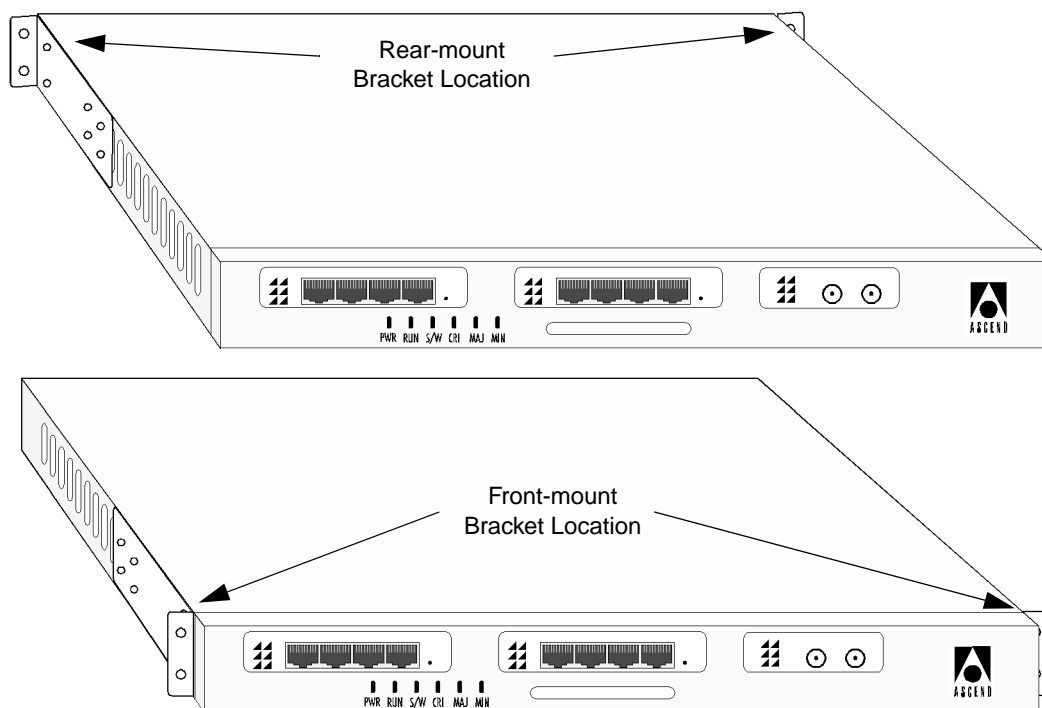

Figure 4-1. Front- and Rear-mount Bracket Locations (19-inch shown)
4. Use the flathead Phillips screws supplied in the bracket kit to attach the brackets to each side of the SA 100 at the locations illustrated in **Figure 4-1**.